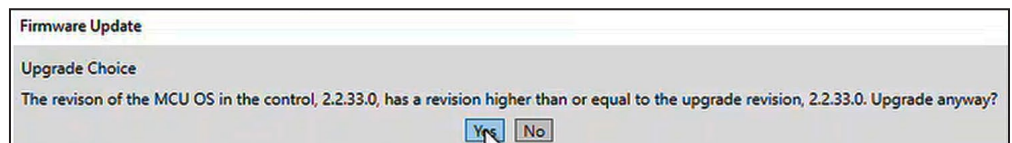

Figure 33. The MCU OS revision dialog box.
**STEP 15.** The Firmware Update dialog box will prompt for selection of the update or downgrade method. Click on one of the options to proceed. See Figure 33.